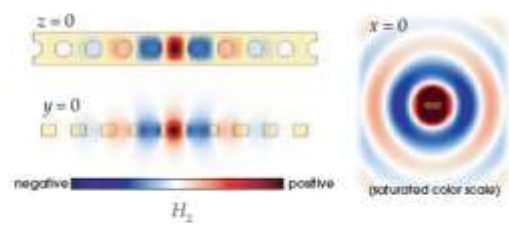

Figure 6: H_z field patterns of a localized resonant mode. In a cavity formed by a defect in the periodic waveguide (suspended in air) of figure 5(a).
- The resulting defect state is TE-like, with its frequency shown in the left panel of figure 6.
So, they quickly you know diminishes And if you look from x equals 0 plane you will be able to see that you know exactly at that particular point defect the field is trying to leak out through radiative leakage and this saturated color scheme has been used here to exaggerate the small field values for better visualization. So the resulting defect state is basically a TE type and its frequency is basically shown in the left panel of figure 6 that you can see here. And the frequency of this defect state is basically omega naught which is 0.308 times 2 pi C by A. So, you can find out the exact frequency if you know what is the LED is facing.